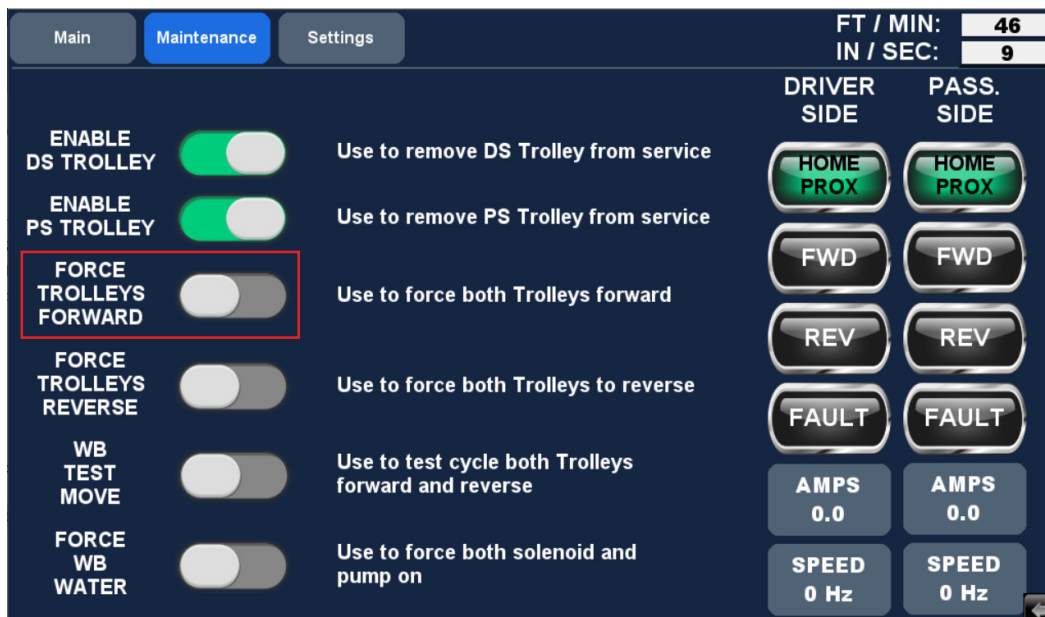

Fig. 4.4 - 1 - HMI Maintenance screen
8. Press the '**FORCE TROLLEYS FORWARD**' button momentarily (Fig. 4.4 - 1).